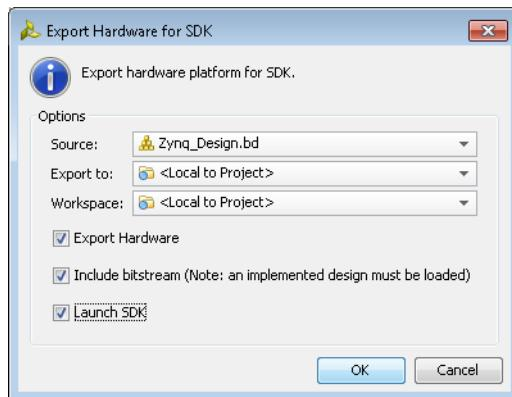

Figure 10-23: Export to SDK Dialog Window
2. In the Export Hardware for SDK dialog box (Figure 10-23), ensure that the **Include Bitstream** and **Launch SDK** options are enabled and click **OK**.